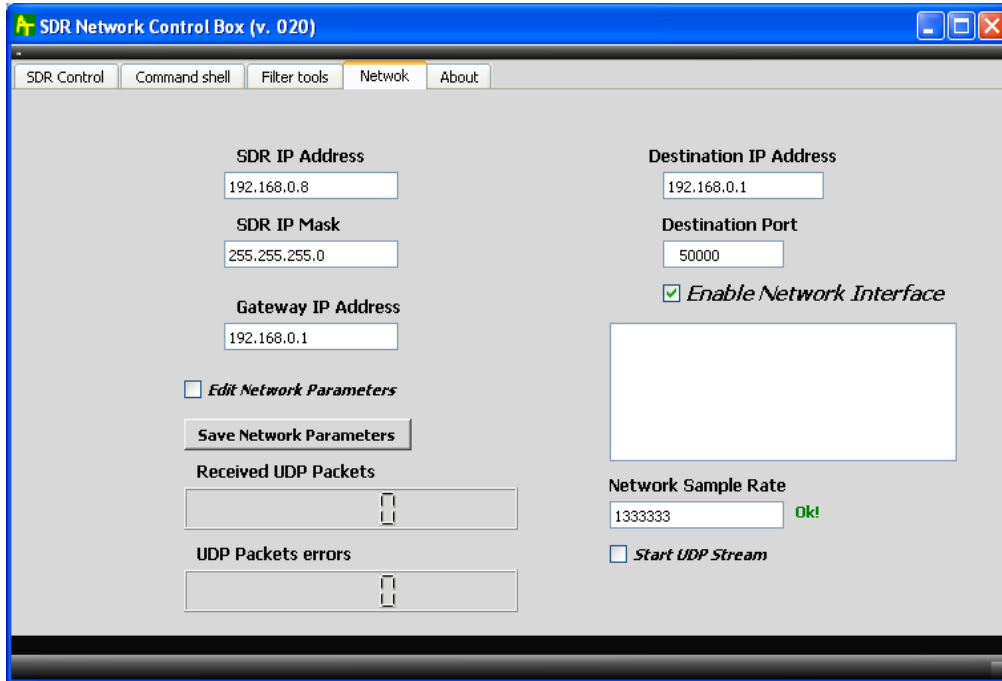
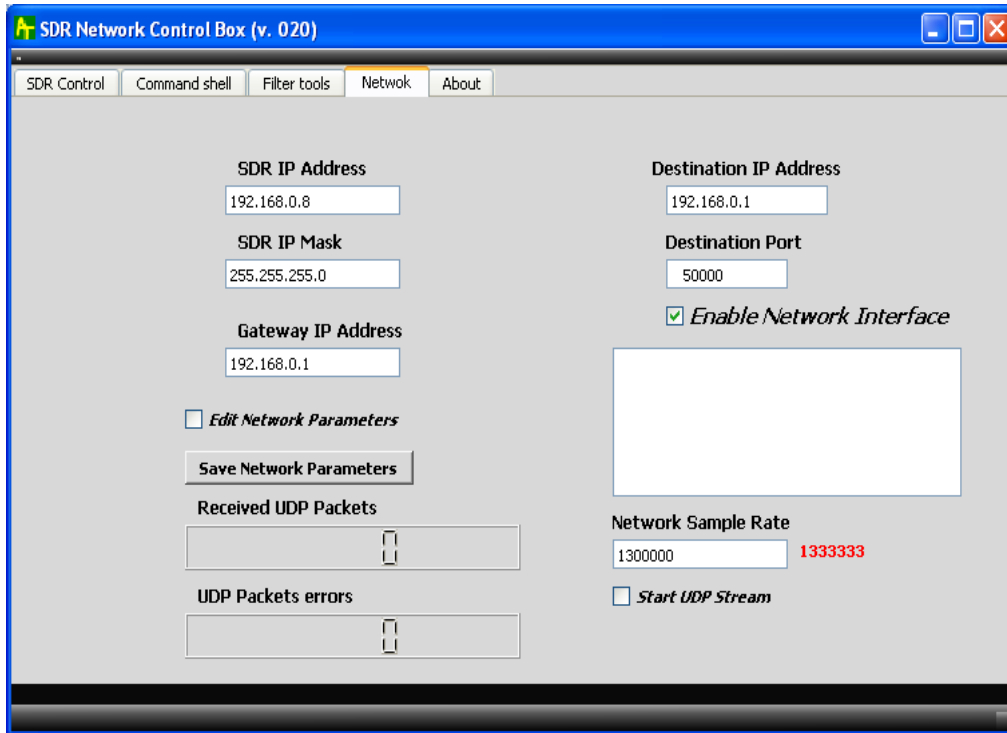

Figure 6 Network tab (correct sample rate value).
Figure 7 Network Tab (non correct sample rate value)
“Network” tab screen shot is shown on **Figure 6.** and **Figure 7.** there is concentrated all parameters that are needed to provide network functionality of SDR Network Control Box when it is used as Winrad plug-in, when receiver AFEDRI SDR-Net is connected to PC using network interface. You can see screen shot of “Network” tab on **Figure 6.** The functionality of all user interface elements (tabs, text windows, check boxes) that located on this tab very depends on type of connection between PC and SDR - USB or Network.
3.3.3. Text Box **“Network Sample Rate”** - is used to change current sample rate of SDR when network connection is used. The new value is sent to AFEDIR SDR-Net immediately after “Enter” button is pressed. There is implemented Sample Rate value check procedure, since ver.020 of “SDR Network Control Box” application. Any sample rate value that was entered in this window is checked for correct value that can be achieved in AFEDRI SDR-Net hardware, the real value depends also on “Main Clock Oscillator frequency” so it has to be corrected if “Main Clock Oscillator frequency” was changed due to calibration procedure (see paragraph 3.2.12). If sample rate value is correct, application will show green colored “Ok” message on right side of the “Network Sample Rate” text window (see figure 6.). If sample rate value is not correct, application will show red colored precision value of sample rate. So user can correct sample rate accordingly.